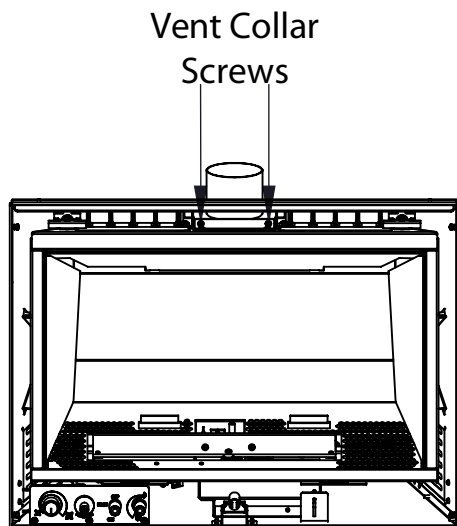

Figure 25: Vent Collar Plate Screw Location.
5. If the fireplace opening is lower than 20" (483mm), remove the vent collar plate from the top of the insert by unscrewing the two (2) T-20 Torx screws located on the center top of the stove above the door opening (see Figure 25). Slide the collar plate backwards. Properly secure the vent collar plate to the flexible vent pipe liner(s) previously installed in the chimney. Be careful not to over-stretch the liner(s).